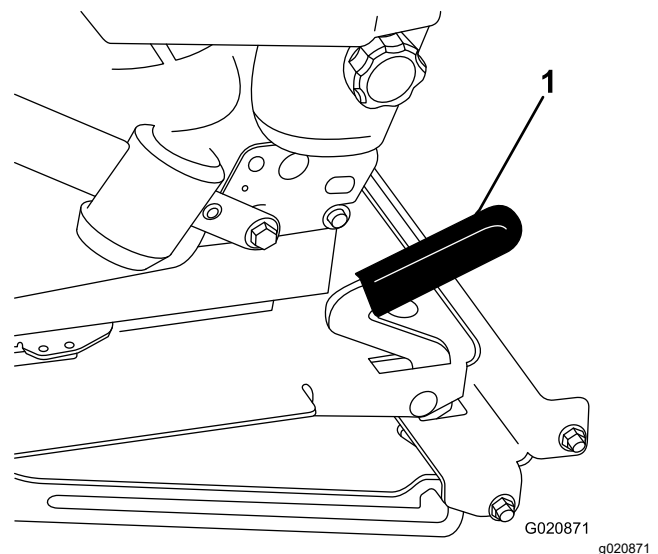

Figure 18
2. Pull the seat latch forward and lift up to unlatch the seat (Figure 18).